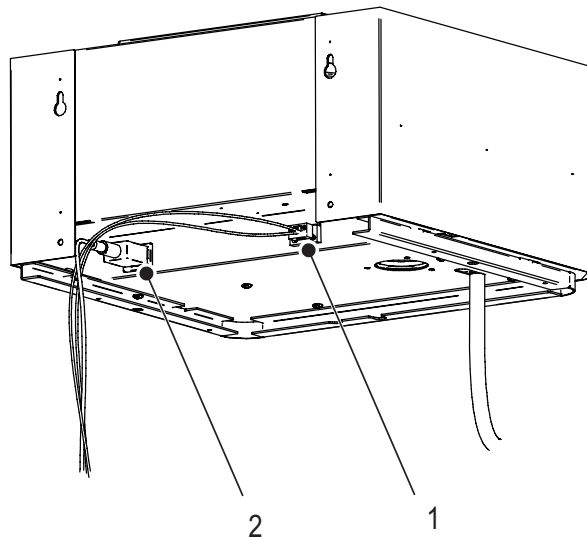

Figure 11: Nortec BP-Series blower pack Electrical Connections
- a. Plug the power cable (supplied) and the security loop cable (supplied by others) into the back of the Nortec BP, but DO NOT plug the power cable into a wall outlet at this point. Refer to Figure 11.